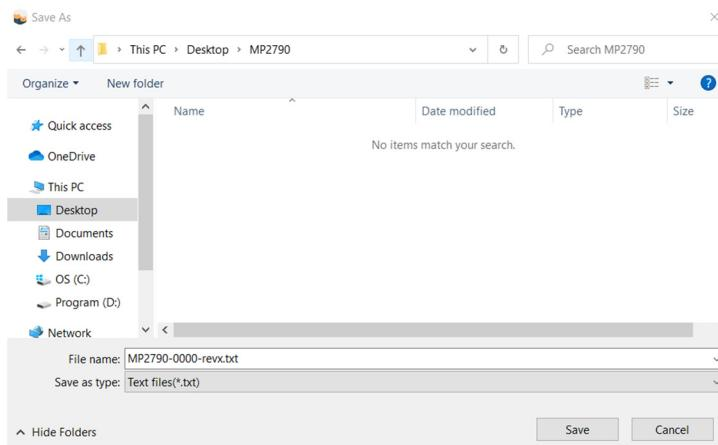

Figure 15: Save the Exported Configuration to Desired Location
6. Find a location for the exported file, rename the file if necessary, and click “Save.” The configurations are saved in a text file (see Figure 15).